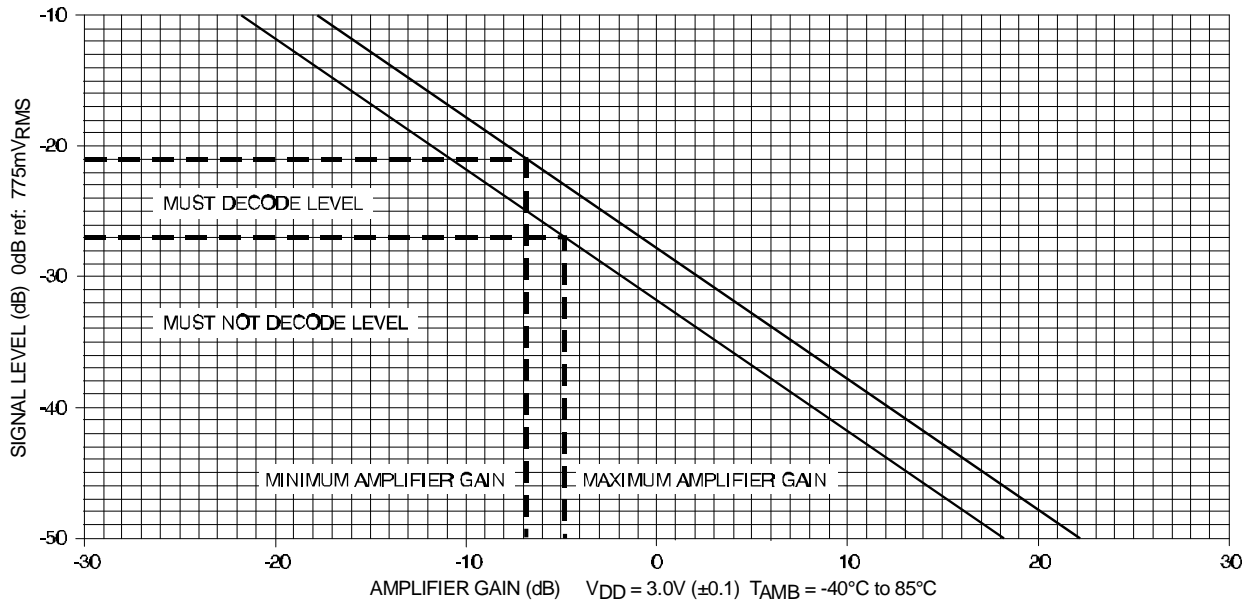
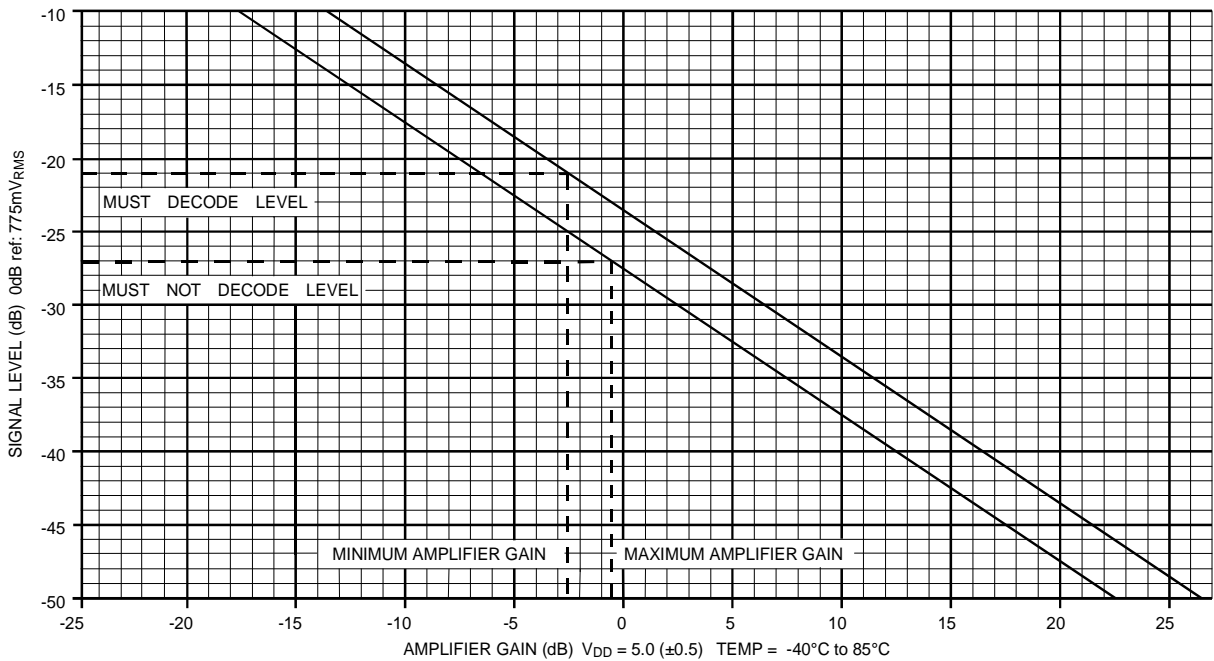

Figure 4: Input Gain Calculation Graph for  $V_{DD} = 3.0V$
Figure 5: Input Gain Calculation Graph for  $V_{DD} = 5.0V$
With reference to the graphs in Figure 4 and Figure 5, the following steps will assist in the determination of the required gain/attenuation.
1. Draw two horizontal lines from the Y-axis [Signal Level (dB)] in Figure 4 and Figure 5. The upper line represents the required 'Must' decode level. The lower line represents the required 'Must-Not' decode level
Component tolerances should not move the gain-figure outside these limits. The graphs Figure 4 and Figure 5 are for the calculation of input gain components for a CMX631A using a  $V_{DD}$  of 3.0 ( $\pm 0.1$ ) or  $V_{DD}$  of 5.0 ( $\pm 0.5$ ).